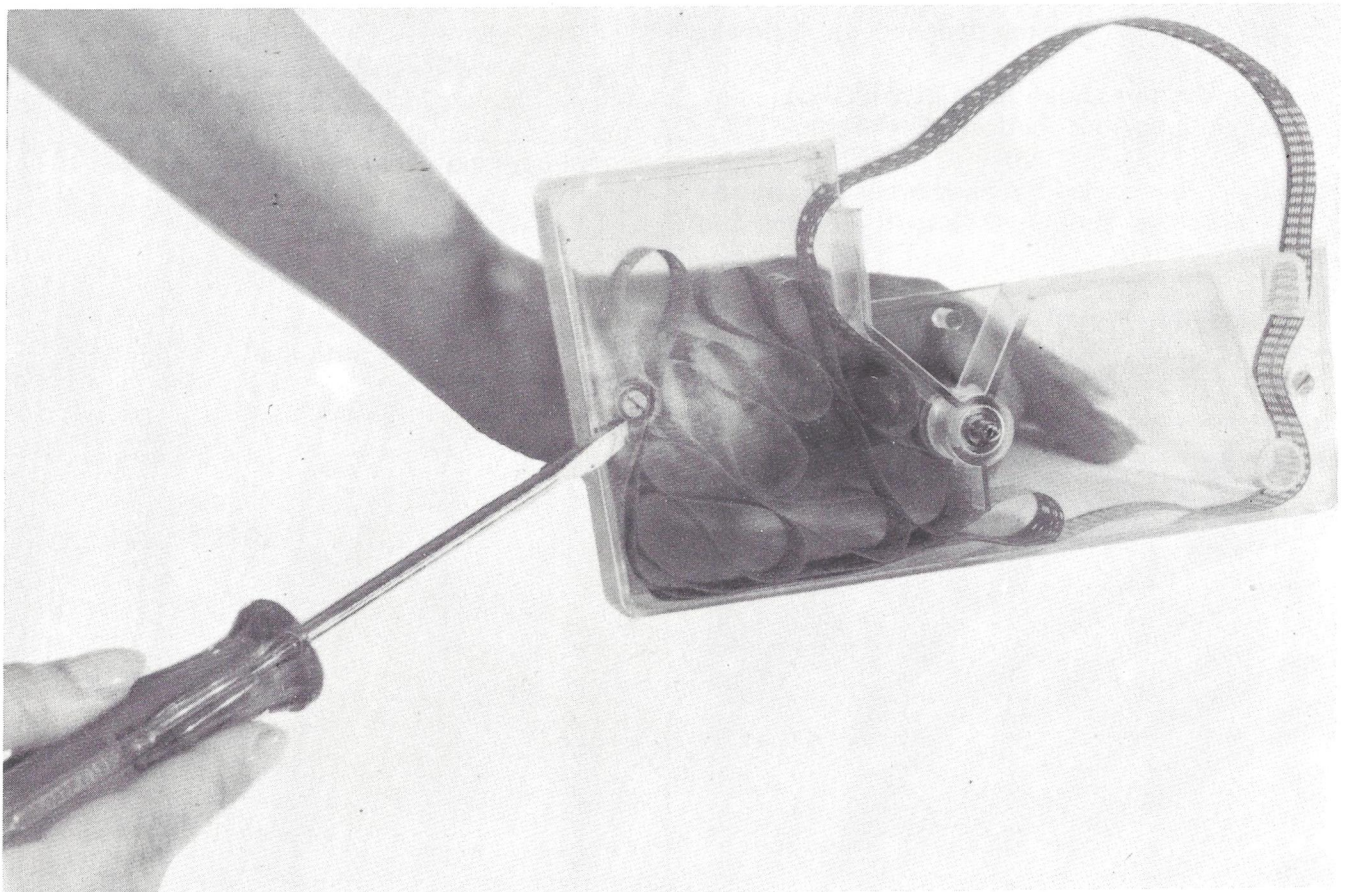

Figure 11.
2. Open the plastic cartridge by removing the two screws in the cover (see figure 11).